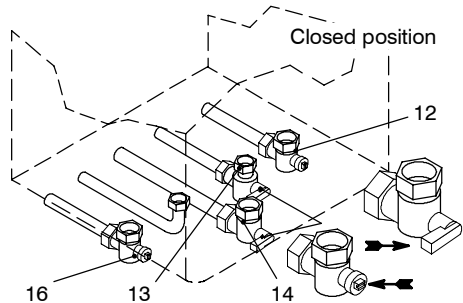

Fig. 9.3
- 1 Turn off the d.c.w. inlet isolating valve (13 in Fig. 9.3) and turn on the hot water taps and any drain cocks.
- 1 Close the c.h. isolating valves (12 and 16 in Fig. 9.3).